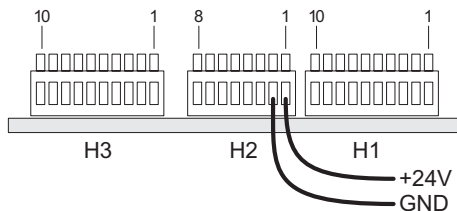

Figure 3-2. BL1200 Power Supply Connections at Header H2
1. Make sure that the BL1200's power supply is connected properly at sockets 1 and 2 on header H2, as shown in Figure 3-2.